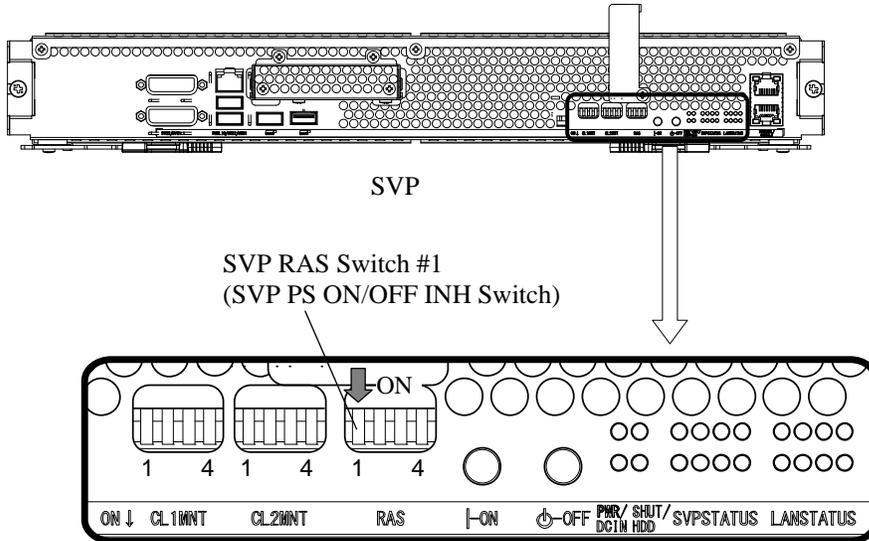

Fig. 3.16.2-3 Setting of SVP RAS Switch #1
- a. Insert the spare SVP until its lever edges reach the DKC. (Refer to Fig. 3.16.2-2.)